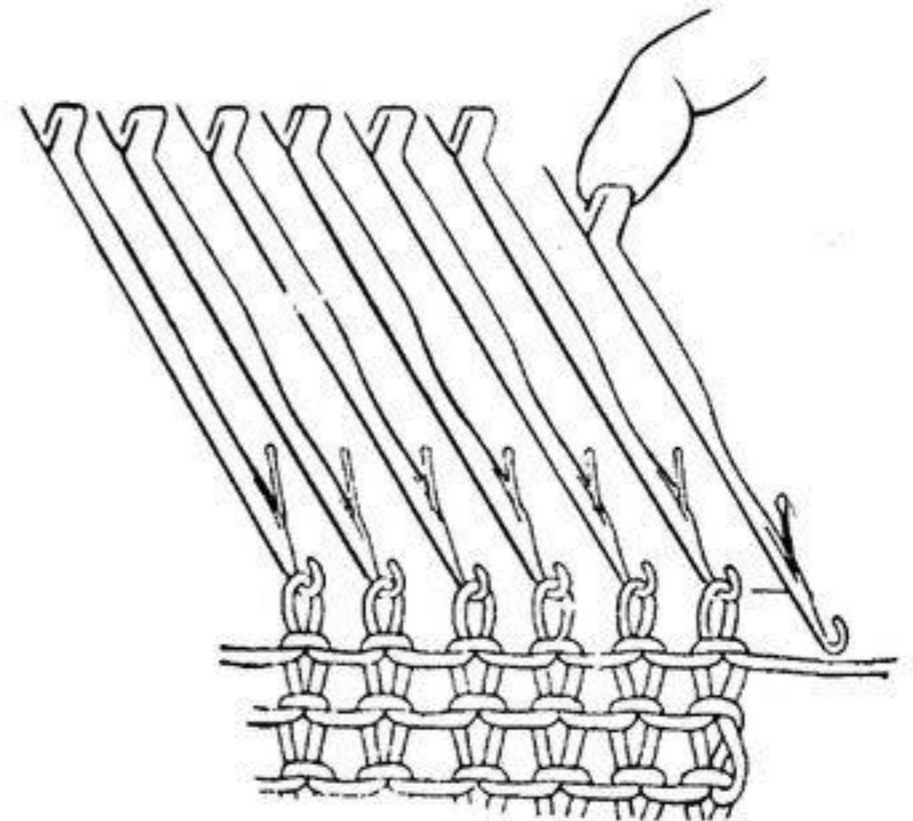

Fig. 36
This can only be done at the start of row. To do this pull forward into working position the next empty needle at the end nearest the carriage, and knit. (Fig. 36)
- (a) Bring the next empty needle into the working position. (Fig. 36)
(Fig. 36)